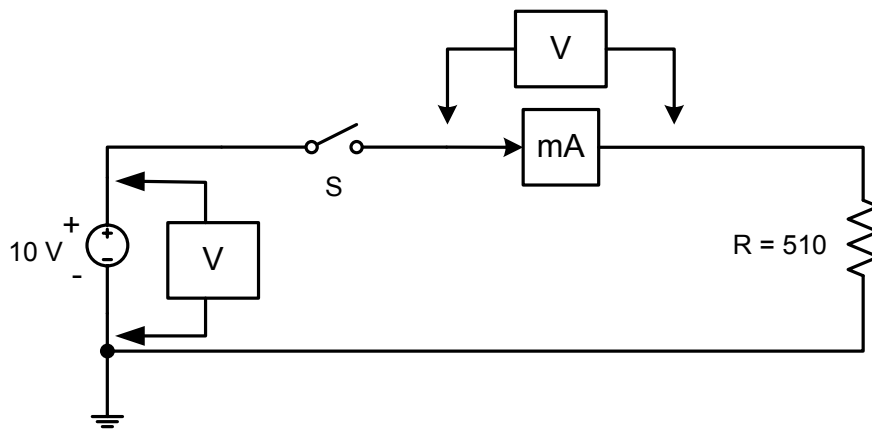

Figure 3.2
Step 2: Connect the circuit shown in Figure 3.2 on the protoboard, but *do not connect the voltmeter to the circuit yet*.